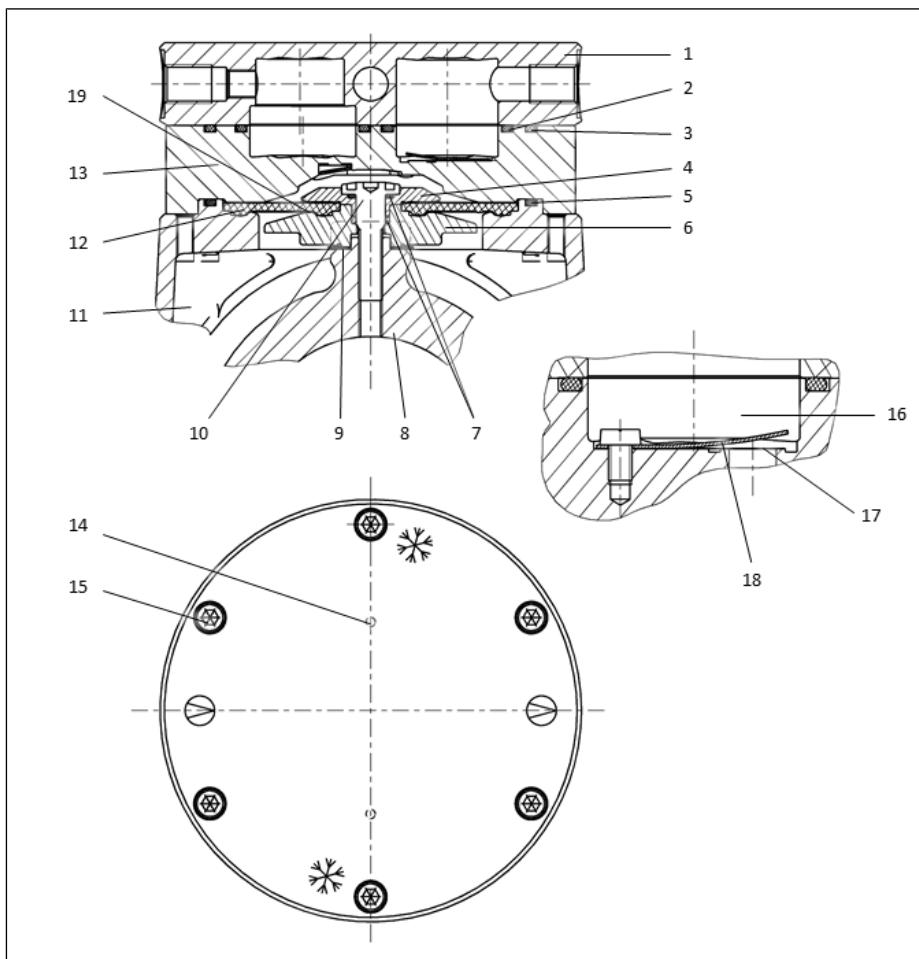

Fig. 16 Components of the pump head
** Acc. to Fig. 16
i The following item numbers refer to Fig. 16 unless specified otherwise.